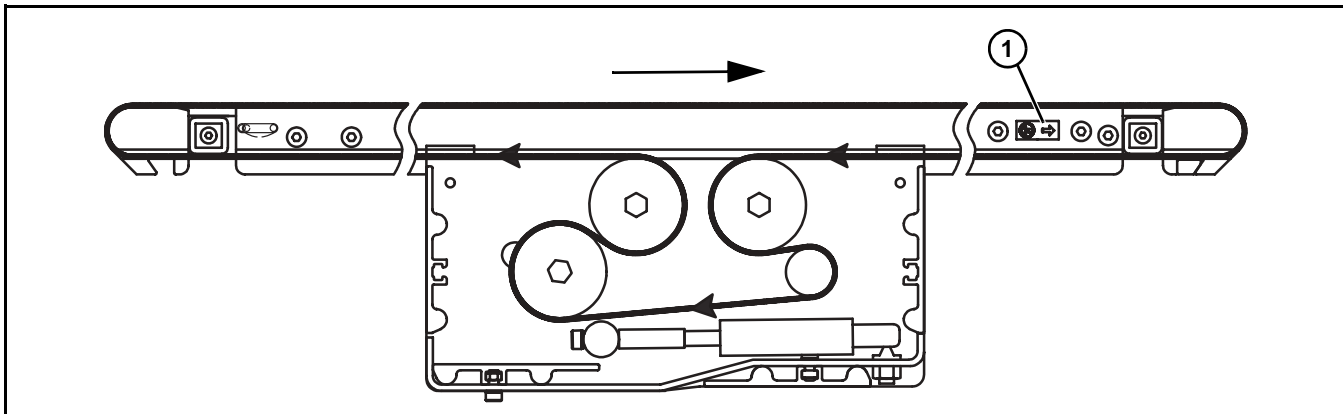

Figure 39
On a center drive conveyors, belt travel direction is identified by an arrow decal on the side of the conveyor (Figure 40, item 1) & (Figure 39, item 1).